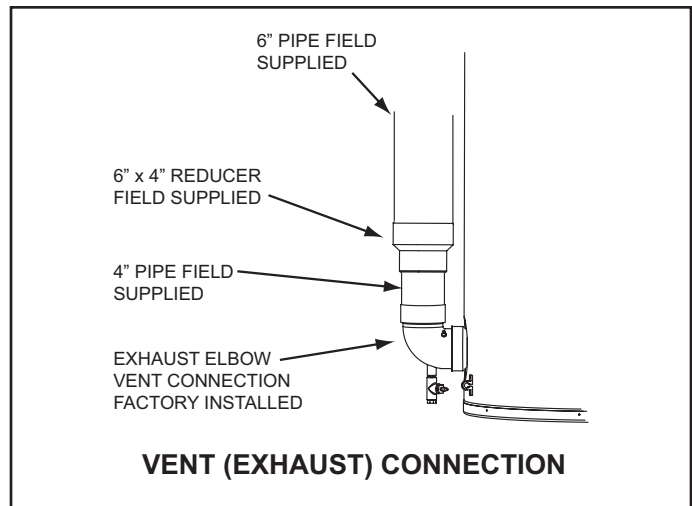

Figure 15
11. If installing 6 inch pipe transition to 4 inch pipe at the exhaust elbow on the water heater as shown in Figure 15. The field installed 4" pipe between the exhaust elbow and the 6" x 4" reducer coupling should be 18 inches (45 cm) or less in length.
- If installing 6 inch vent pipe transition to 4 inch pipe at the exhaust elbow on the water heater as shown in Figure 15 on page 23. The field installed 4" pipe between the exhaust elbow and the 6" x 4" reducer coupling should be 18 inches (45 cm) or less in length.